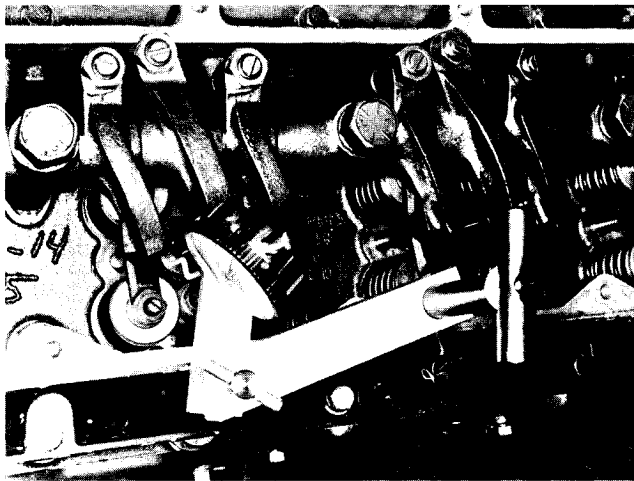

Fig. 2-38, (V514114). Dial indicator in place — V-903
1. Set up the ST-1270 Indicator Support with the indicator extension atop the injector plunger flange at No. 2 cylinder. Fig. 2-38.